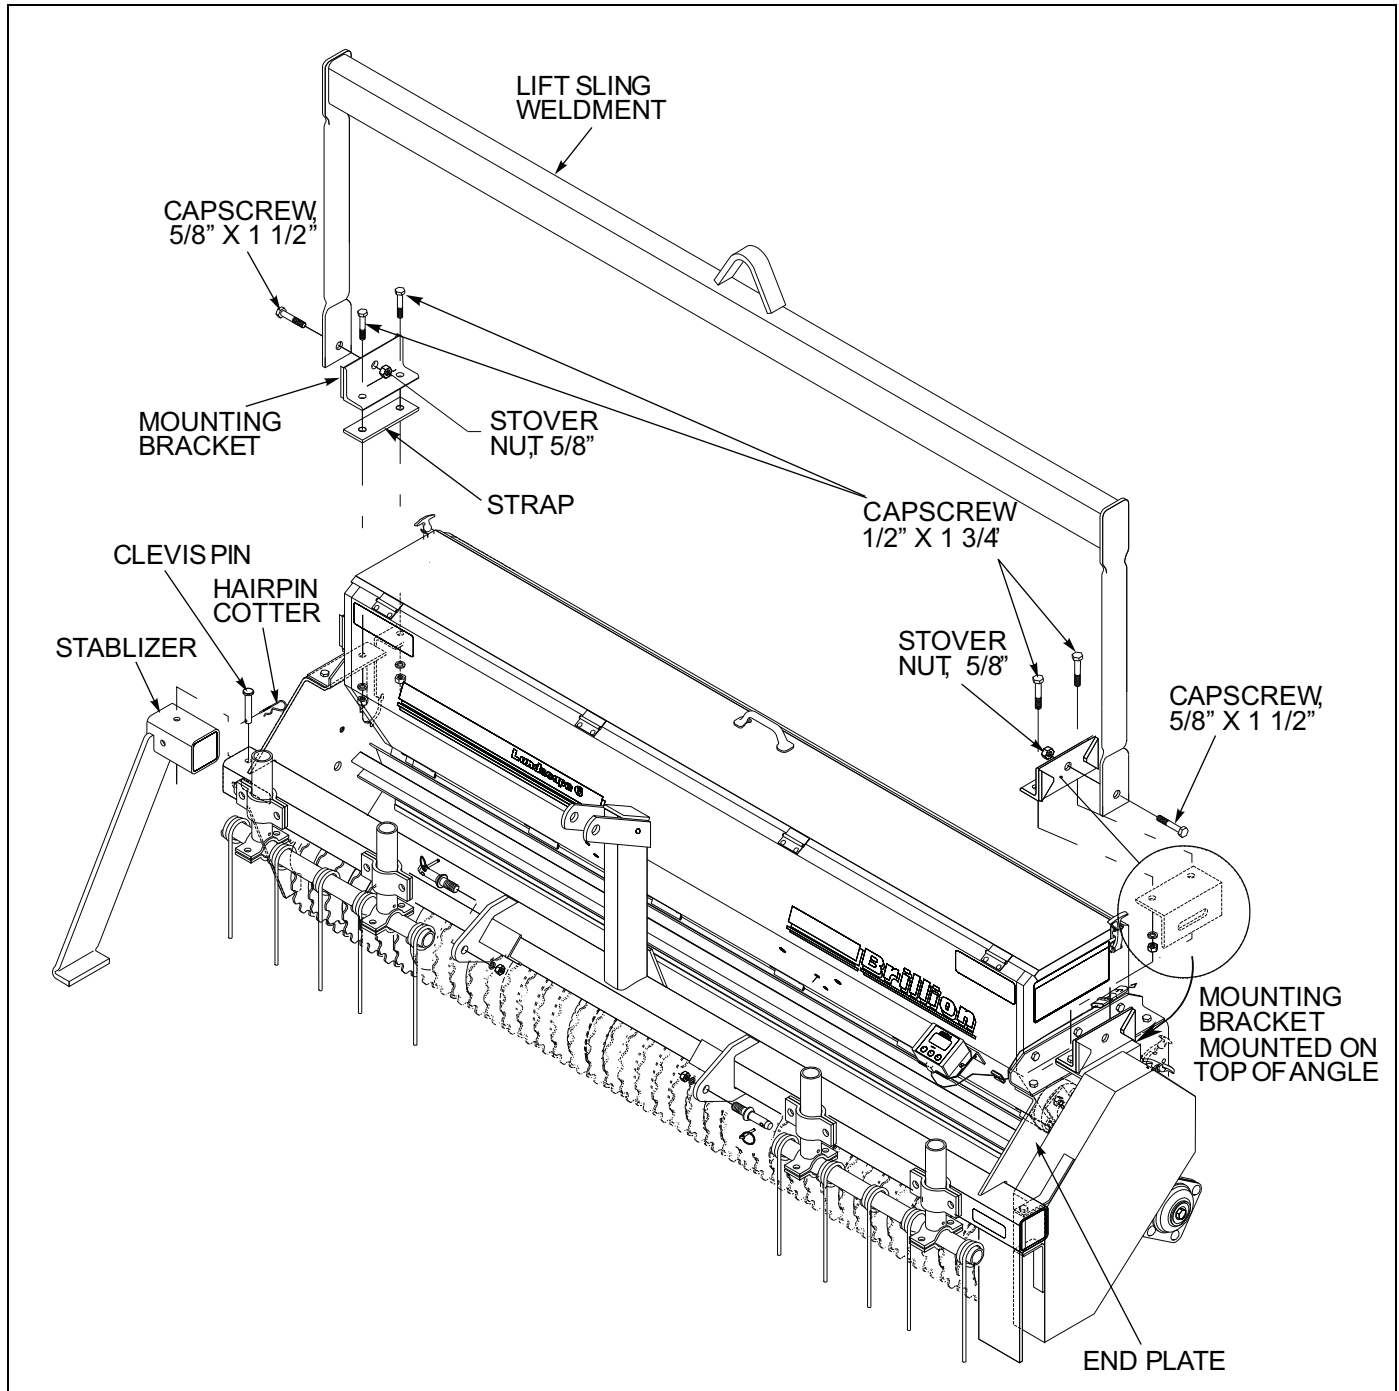

Figure 3-3: Lift Sling Kit
1. Attach a mounting bracket to the left side of machine and a mounting bracket and strap to the right side of machine at the center holes of the right and left end plates. Use 1/2" x 1 3/4" capscrews found in the kit box assembly and the nuts already used on the endplates. See Figure 3-3.